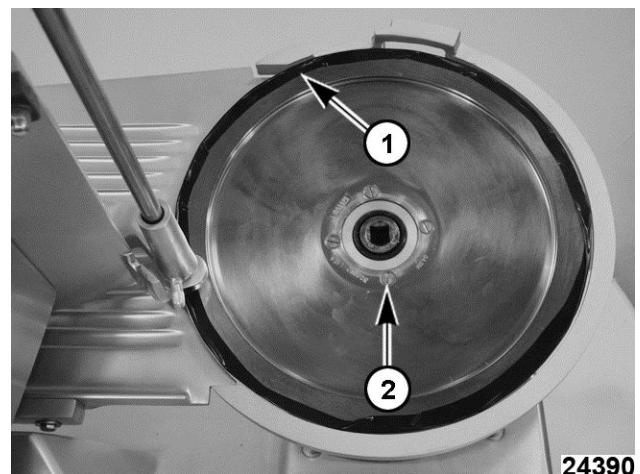

Fig. 7
2. Tape knife edge (1, Fig. 7).
3. Remove the knife screws (2, Fig. 7).